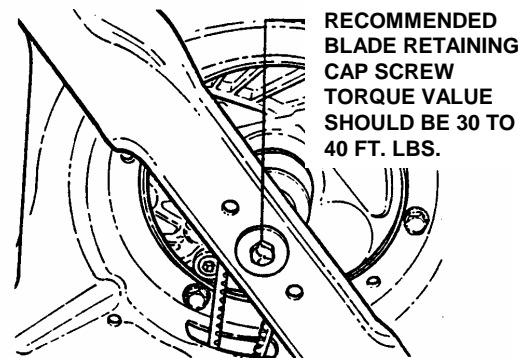

FIGURE 3.4
2. Tilt mower up on its rear wheels for access to the blade cap screw. Do not tilt mower with spark plug or carburetor down. See Figure 3.4.
3. Check torque of blade retaining cap screw. Recommended torque should be 30 to 40 ft. lbs. See Figure 3.4.